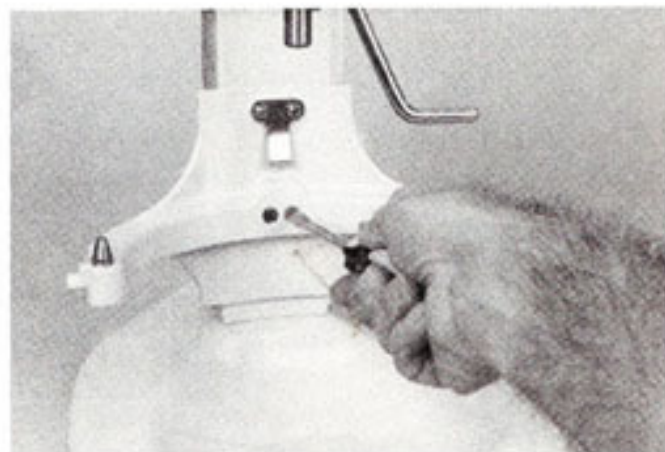
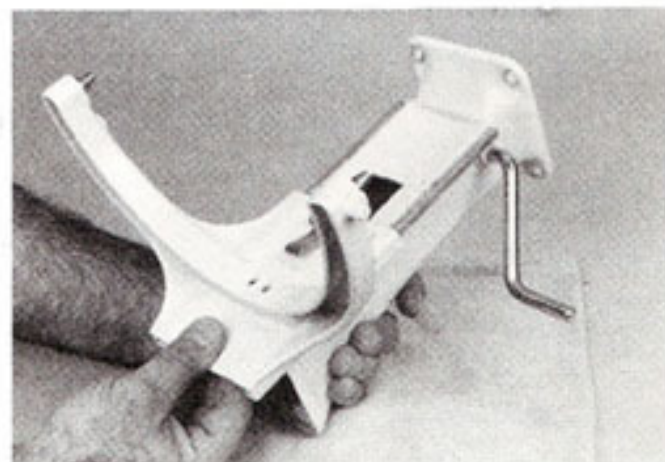
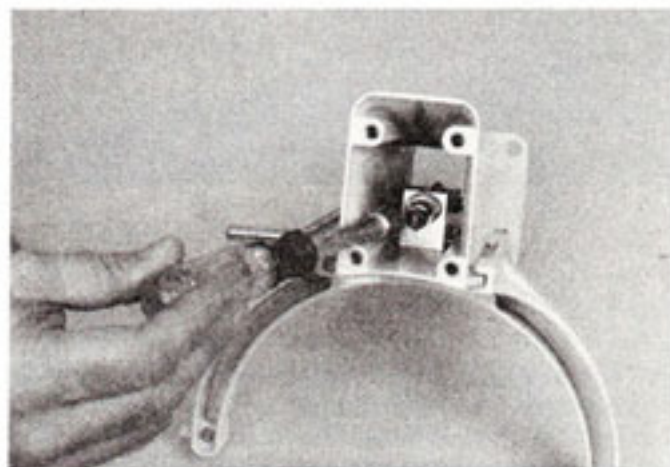

Fig. 89
Fig. 90
Fig. 94
E. Remove the two #10-24 x $\frac{1}{2}$ " flat head screws (Fig. 89) and pull out the bowl support down and off the column (Fig. 90).
- I. Slide the new bowl support assembly on the column (Fig. 90). Place the bowl lift bracket in place and screw in the two #10-24 x 1/2" flat head screws. These screws must be very tight. Check the castle nut so that the tension will be great enough to snap the rod into the arm and hold it there (Fig. 94).